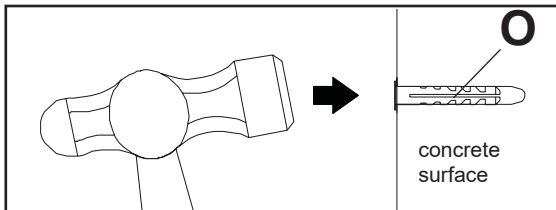
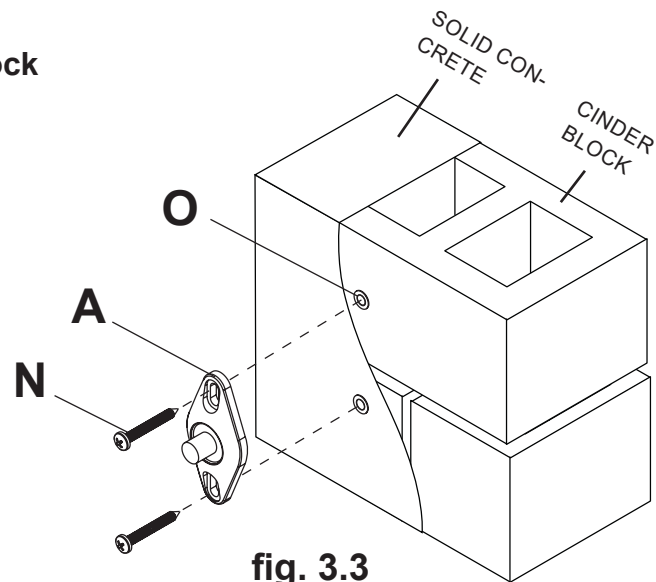

fig. 3.2
fig. 3.3
Use mounting plate as a template to mark the two mounting holes. **NOTE:** For wall mounting applications, position mounting holes in a vertical pattern. Drill two 5/16" (8 mm) dia. holes to a minimum depth of 1-7/8" (48 mm). Insert anchors (O) in holes flush with surface as shown in figure 3.2. Place mounting plate over anchors and secure with two #12 x 1-3/4" self tapping screws (N) as shown in figure 3.3.